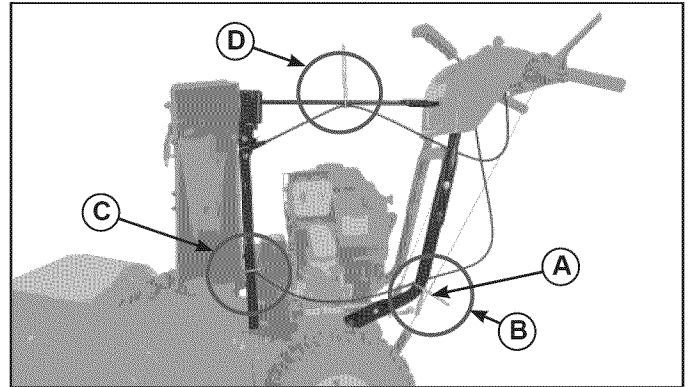

Figure 14. Secure Cables
1. To prevent chute deflector cable from contacting tire, rotate chute all the way to the left and secure with zip ties (A, Figure 14). Secure cable to left handle (B) and to support tube (C), and secure speed selector cable to split rod (D).